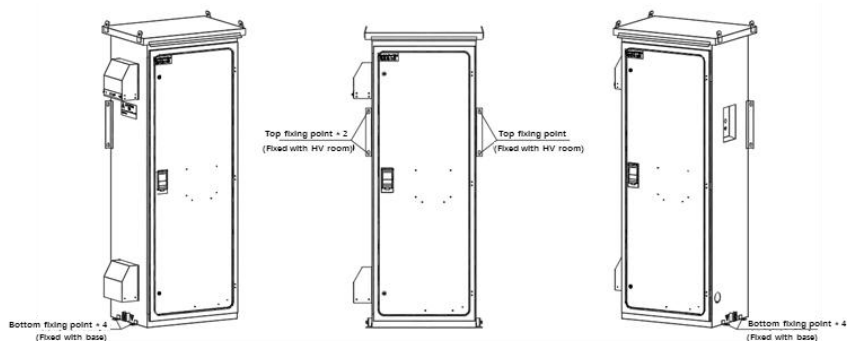

Fig. 5-5 Installation location plan of the standardized Auxiliary panel r
- (1) According to Figure 5-5, after the standardized Auxiliary panel is placed in place, the fixing point of the Auxiliary panel is fixed with stainless steel bolts according to the fixed connection position of the all-in-one machine or box;
- (2) After fixing the position of the Auxiliary panel, connect the grounding point of the Auxiliary panel with the all-in-one machine or box with flat steel or copper wire.